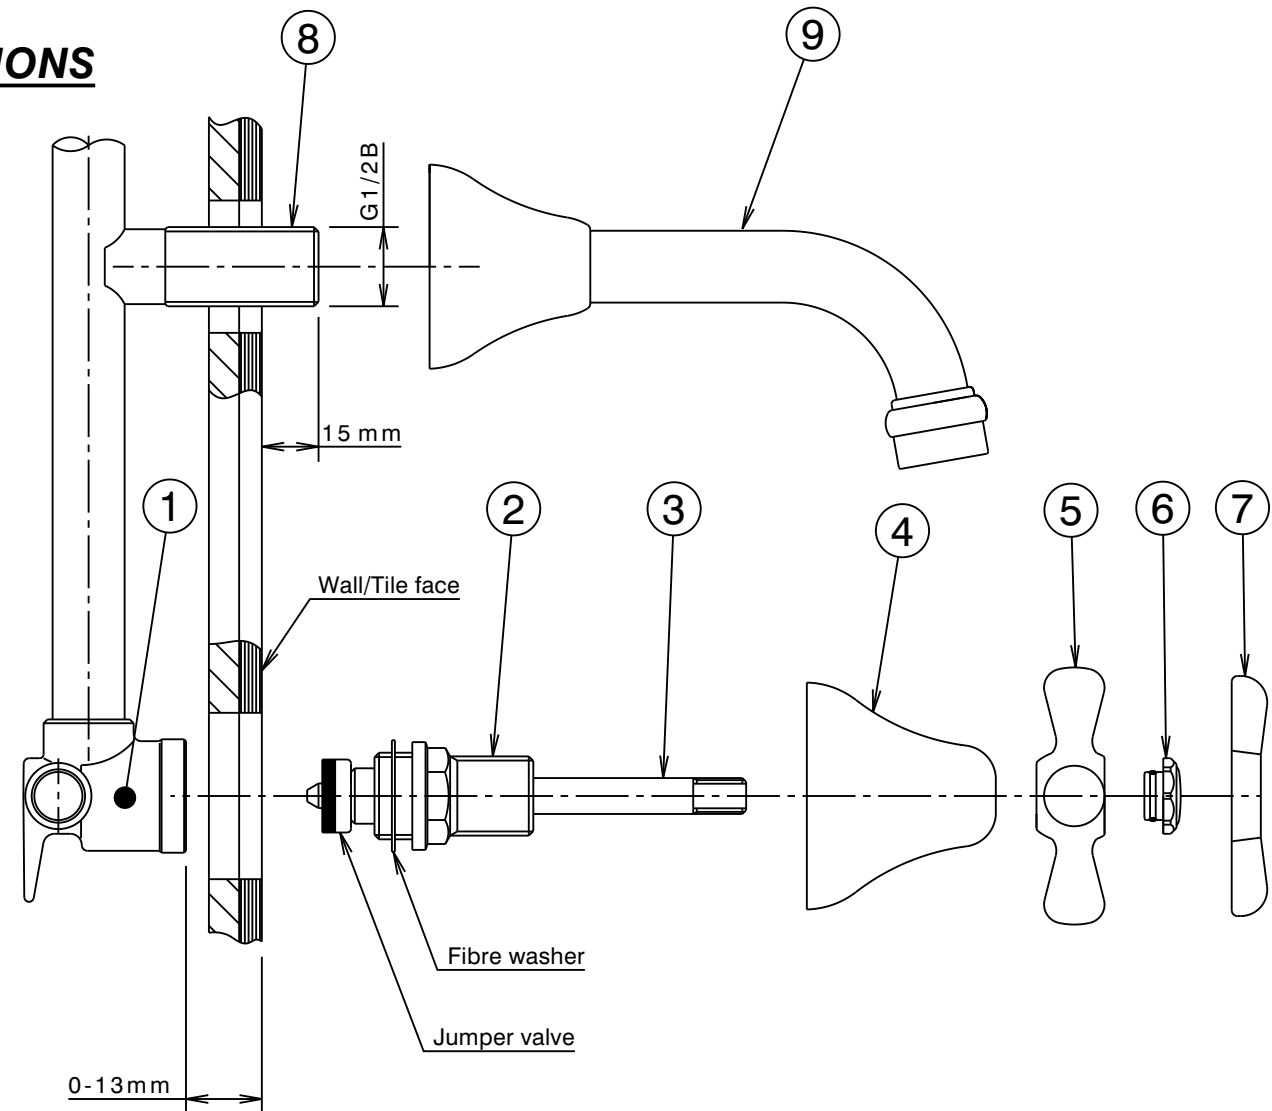

Fig. 1
- 1) Check that the face of the recess tap body (1) is between 0-13mm from the wall/tile face, as shown in Fig.1
- 2) Check seats in recess tap bodies (1) are in good condition and free of foreign materials. Reseat if required.